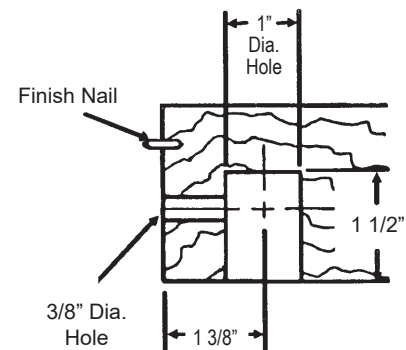

Fig. 3
3. Drill a 1" Dia. hole 1 1/2" deep in the bottom of the handrail as shown in Fig. 3. Drill a 3/8" Dia. hole in the end of the handrail into the 1" Dia. hole as shown in Fig. 3 and 4.